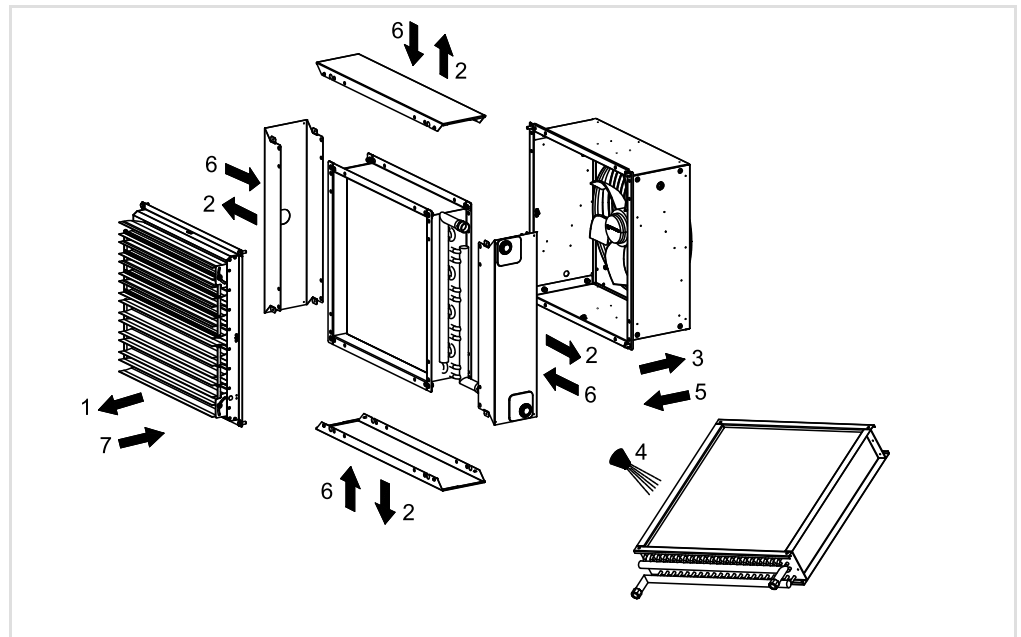

Fig. 8-4: Cleaning the heat exchanger
To clean the heat exchanger remove some parts of the unit in the sequence (1-3) shown in Fig. 8-4. Clean the heat exchanger by washing its louvres with a jet of warm water (4). Assemble the unit in the sequence (5-7) shown in Fig. 8-4. To commission the unit follow the steps in Chapter 7 "Commissioning".